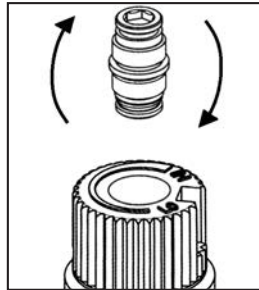

Figure 16: Flip valve screw.
- d) Flip the screw (refer to Figure 16).